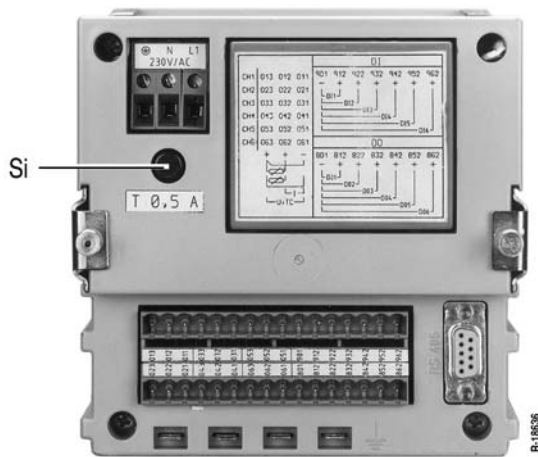

Figure 20 Replacing fuse *Si*
5.1 Fuse replacement (see Figure 20)